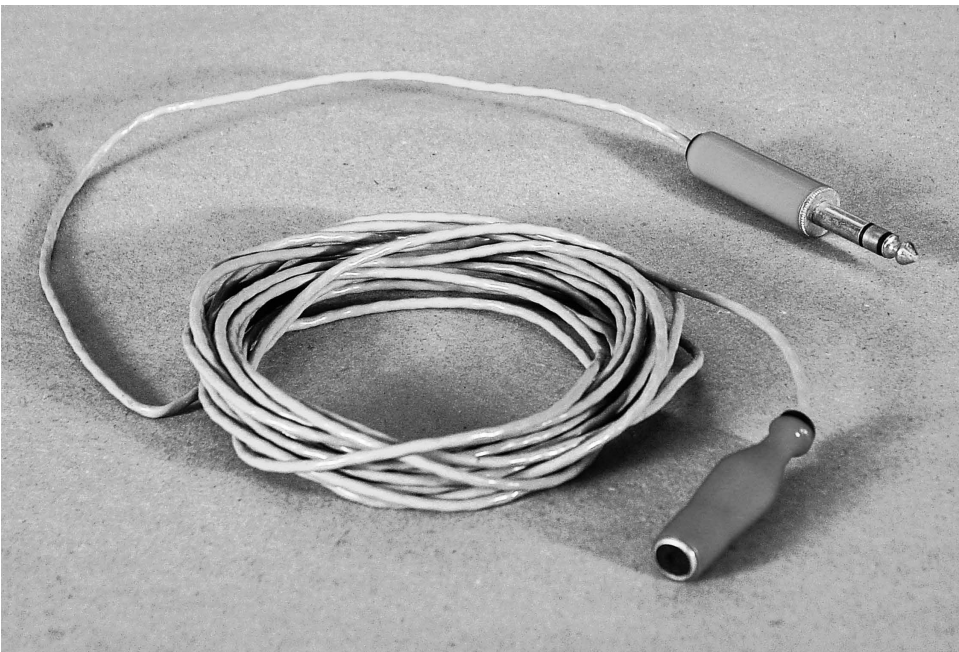

Figure 11.6 Electret capsule in clip lead hood.
- Remove the hood covering the alligator clip in a busted test lead (I'm sure you have a pile of them by now) and slip it over the electret element (Figure 11.6).